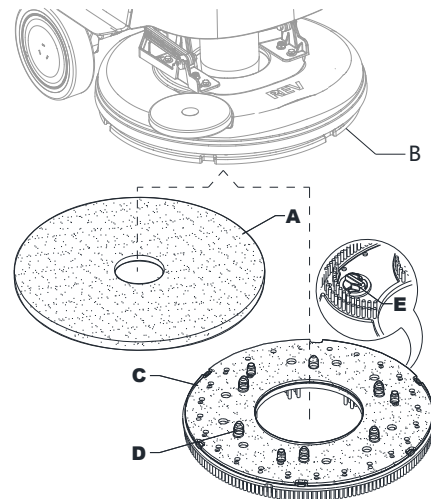

Figure 5
1. Make sure that the REV deck (41) is lifted.
2. Turn off the machine with the power button (62).
3. According to the kind of cleaning to be performed, install the pad (A, Fig. 5) or the brush (C, optional) and note the following:
- Place the pad (A) under the deck and press it until it is fastened with the Velcro of the drive disc (B).
- Place the brush (C, optional) under the deck, and then match the centering pins (D) to the respective holes of the drive disc (B), and then engage the brush with the three mounting screws (E).